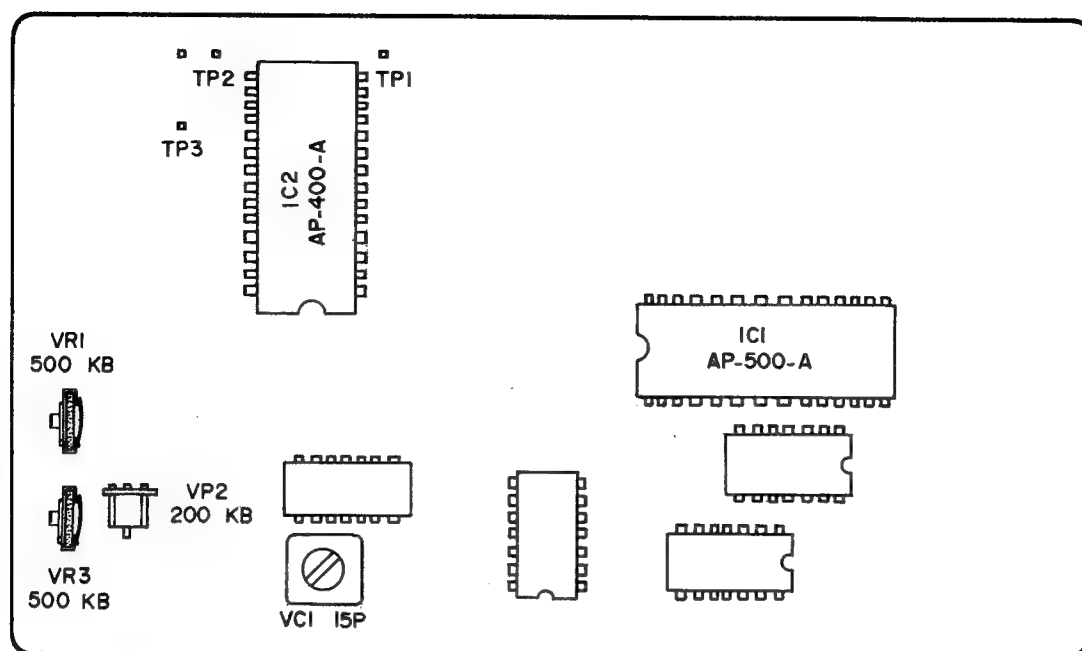

Fig. 22 Synthesizer P.C Board
1. X'TAL OSCILLATION FREQUENCY ADJUSTMENT (Refer to Fig. 22)
2. QUARTZ LOCK ADJUSTMENT (Refer to Figs. 22, 24)
4. PHASE ANGLE ADJUSTMENT (Refer to Figs. 22, and 25)
(Refer to Figs. 22, 34 and 35)